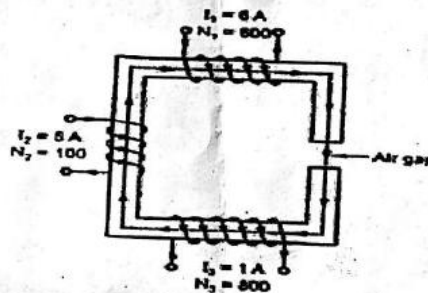

Figure Q5 (b)
- (b) A magnetic circuit is excited by three coils as shown in figure Q5 (b). Calculate the flux produced in the air gap. The material used for core is iron having relative permeability of 800. The length of the magnetic circuit is 100 cm with an air gap of 2 mm in it. The core has uniform cross-section of 6 cm^2 . Take $\mu_0 = 4\pi \times 10^{-7}$. (9½ marks)